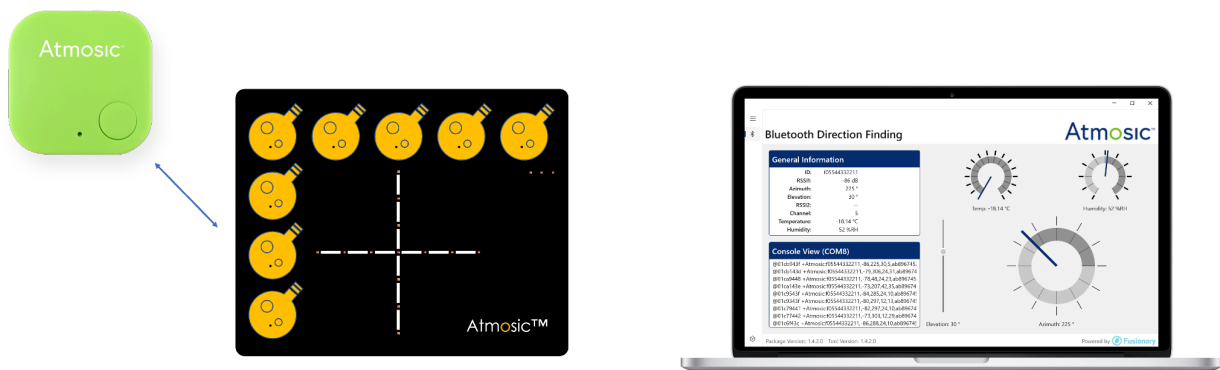

Figure 9 - GUI Display if Tag is Located on the left of the Locator
- Figure 9 - GUI Display if Tag is Located on the Left of the Locator
Position the Tag next to the Locator as shown in Figure 9. The Locator should be put vertically to the table so that the positioning LEDs on the Locator can be observed easily. In the meantime, the Tag should be positioned in parallel to the Locator board and moved along the same plane as the antenna arrays on the Locator. The position of the Tag relative to the Locator can be seen in the console view, general information, and the gauges.